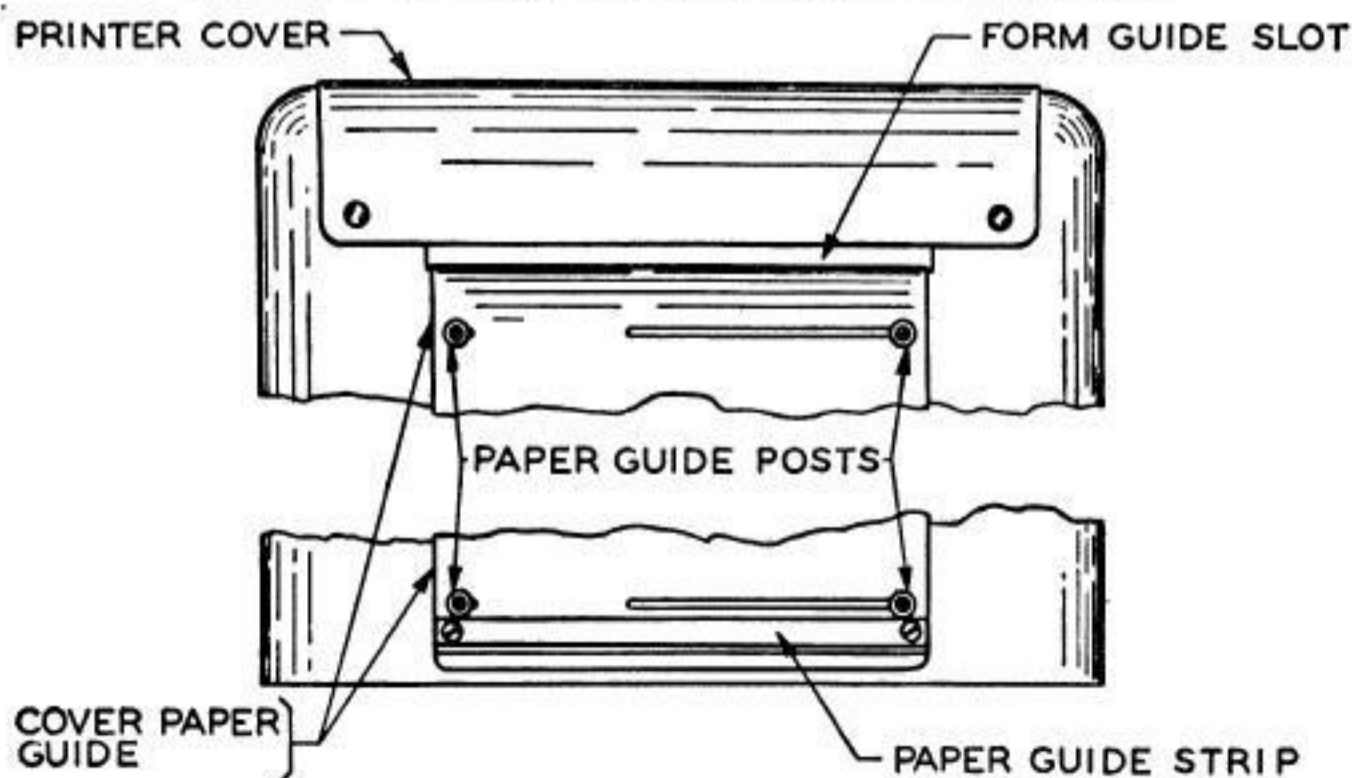

Fig. 5.
2.12 **Cover paper guide posts** should just clear the edges of the forms when the sprocket pins are in the proper holes of the forms so as to hold the paper straight and the slack in the forms is taken up by grasping them just below the paper guide. **Fig. 5**